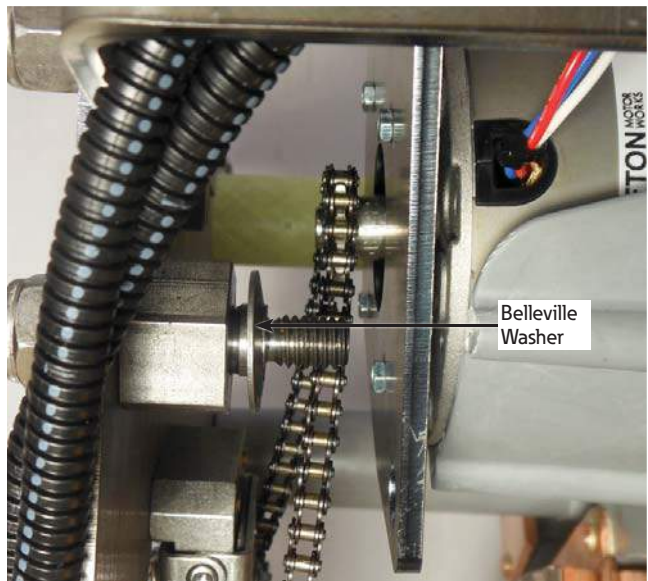

Figure 13. Belleville washer on the motor mounting stud
13. Insure that the Belleville washer is installed over the motor-mount stud with the cupped side facing in. See Figure 13.